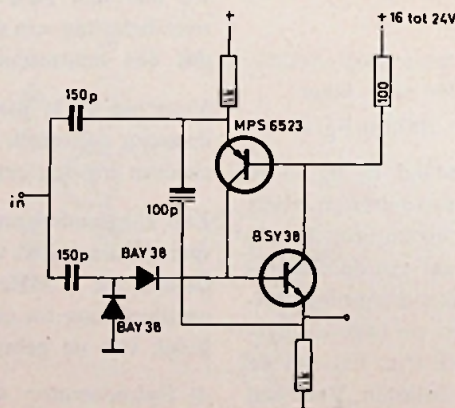

Fig. 13. Multivibrator bistabiel - flip-flop.
g) *Multivibrator bistabiel-flip-flop* (tot 100 kHz) fig. 13